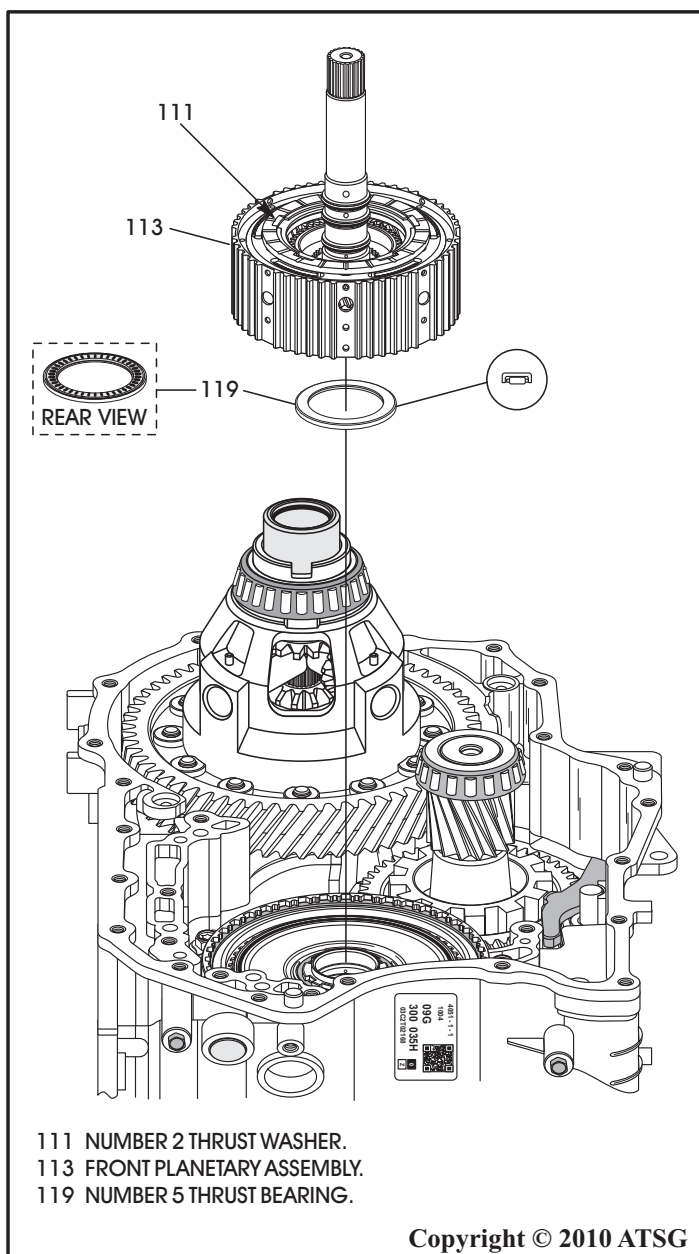

Figure 180
37. Install the completed front planetary assembly, as shown in Figure 180, ensuring that number 5 thrust bearing and number 2 thrust washer are still in place.